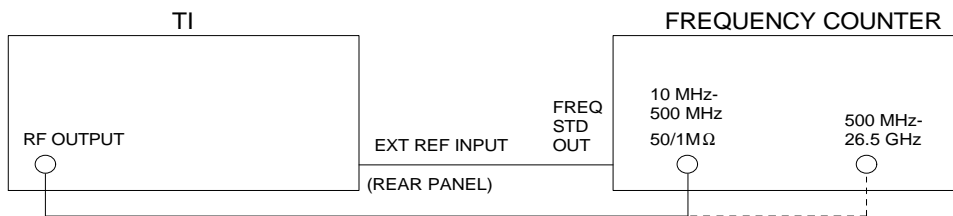

Figure 1.
4.1.3 Connect equipment as shown in Figure 1. Remove FREQ STANDARD jumper so that the connection can be made to TI EXT REF INPUT connector.
\* Connect TI RF OUTPUT to Frequency Counter 500 MHz to 26.5 GHz Input, as per dotted line in Figure 1.
4.1.9 Turn the TI RF OFF/ON to OFF. Disconnect the equipment shown in Figure 1.